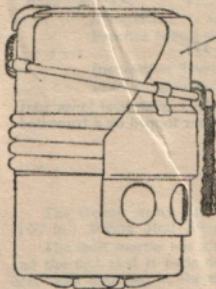

FIG. 15.—S.R.C.M. MOD. 35
25. Hand grenade S.R.C.M., Mod. 35. (See Fig. 15)